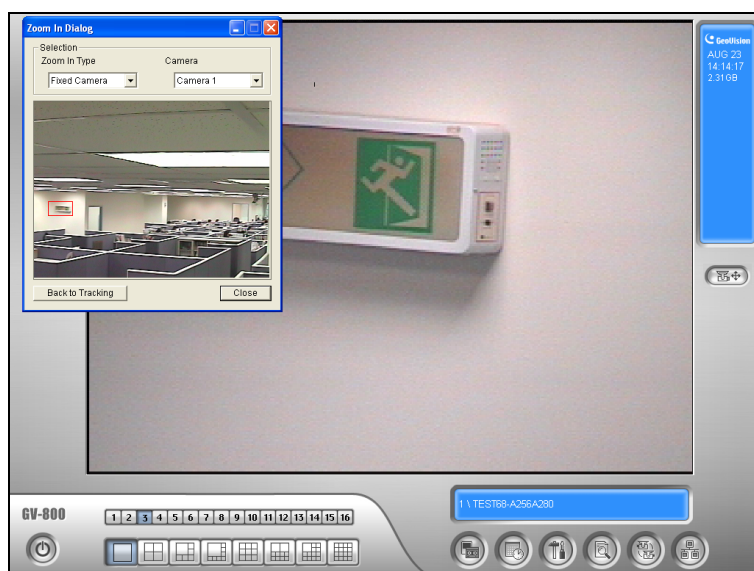

Figure 3-7 The outlined area in the Dialog window is magnified on the main screen
1. Click the **Configure** button (No. 14, Figure 1-2), point to **Video Analysis**, select **Object Tracking Application**, and click **Object Tracking View** to open the Zoom in Dialog window, overlapping on the main screen (Figure 3-7).